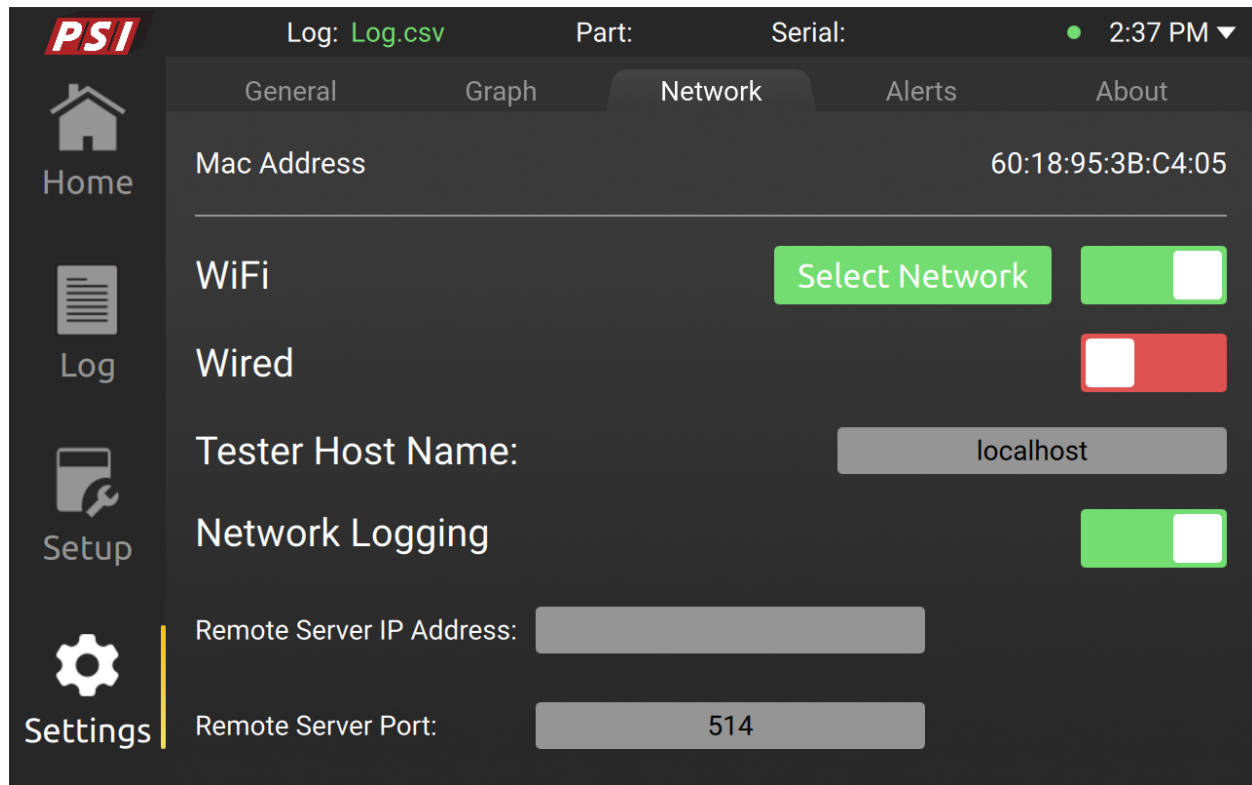

Figure 26 – Network tab of the Settings page
- Alerts (Figure 26)
Alerts is the screen where the user is able to keep track of all the alerts/notifications that occurred while using the software. The screen is illustrated on Figure 26.